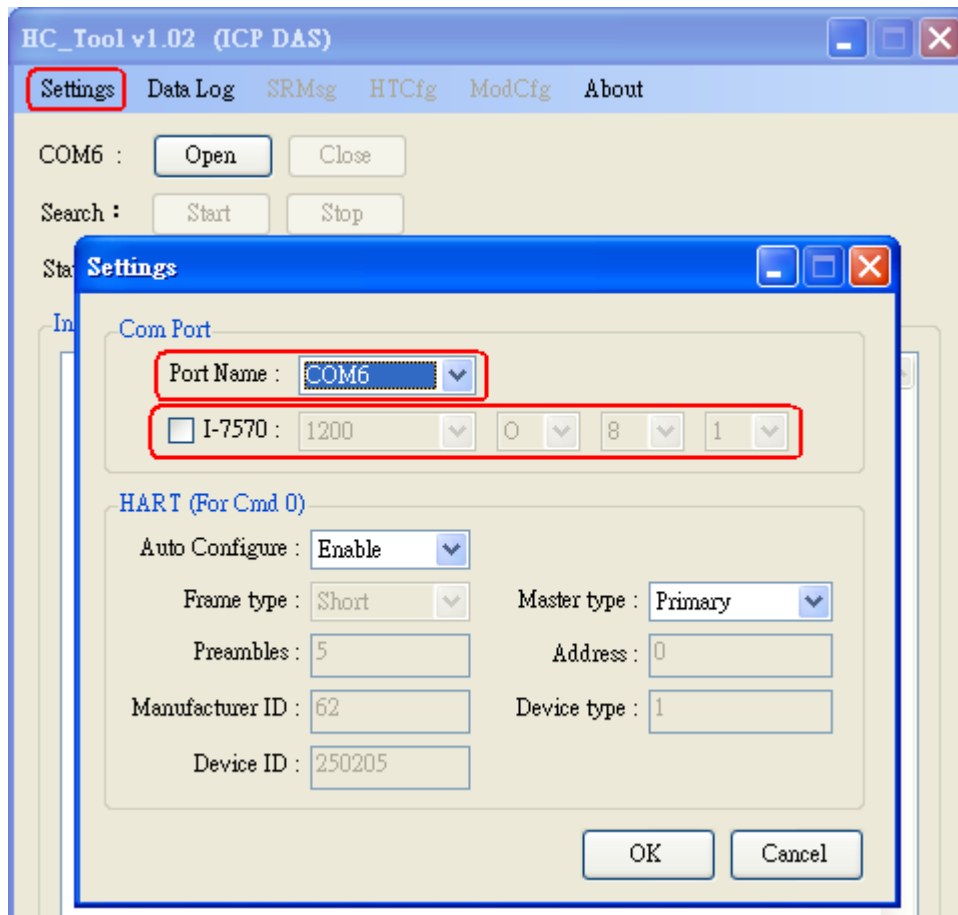

Figure 4-2: Set Serial Port No.
Please click “**Settings**” menu to open setting window of serial port and HART parameters like Figure 4-2.
- (1) Please select serial port no. of PC like Figure 4-2.